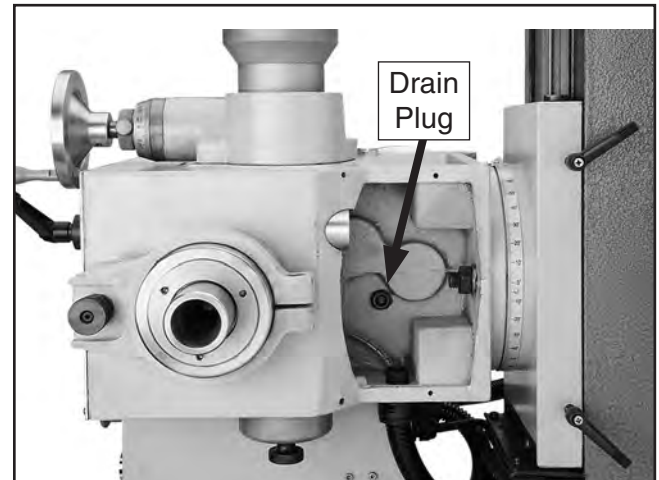

Figure 38. Headstock drain plug (headstock tilted 90° for clarity).
5. Remove drain plug (see **Figure 38**) from underneath headstock and allow oil to drain into pan.